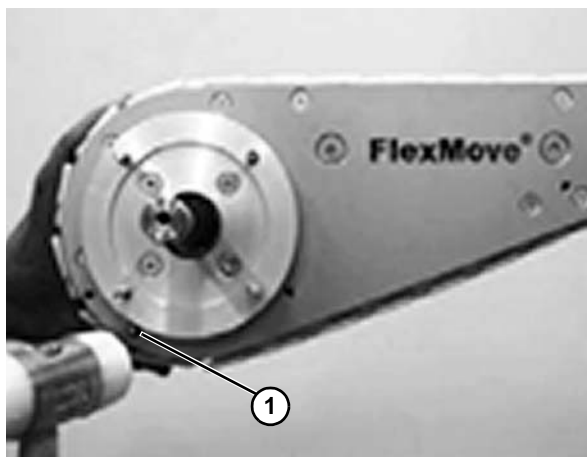

Figure 56
4. Tension the chain and remove links if necessary, so that the chain will exhibit some slack at the drive unit. Put in the stainless steel pin (**Figure 56, item 1**) at the hole provided at drive unit and join the chain.